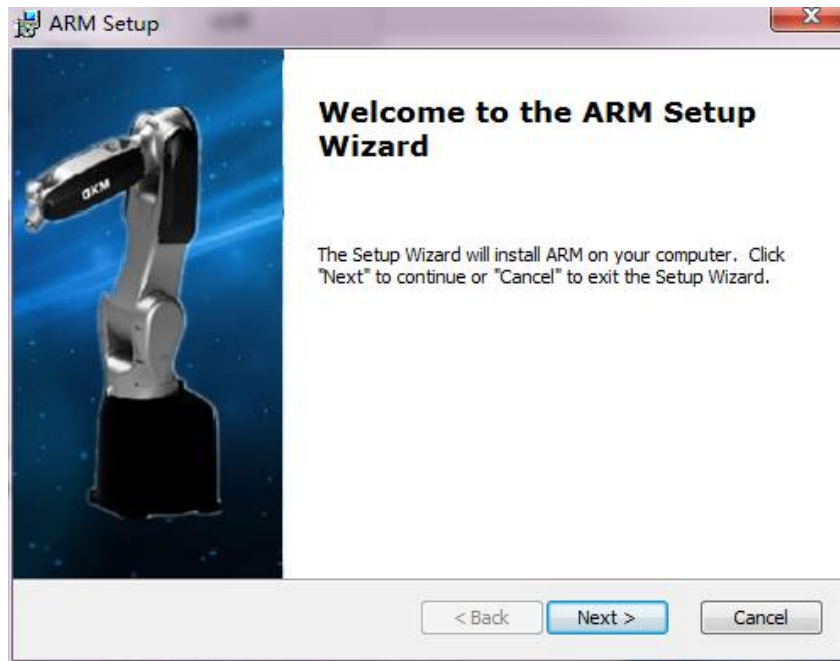

Figure 6-2 Start installation
**Step 2** Double-click the left button to install the software, as shown in Figure 6-2.